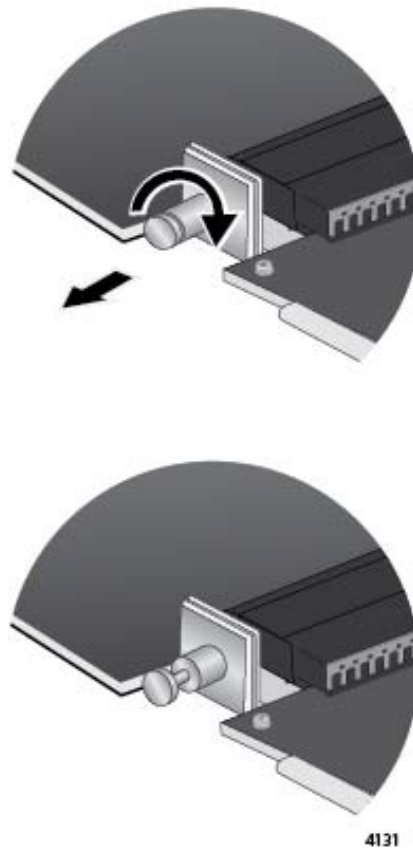

Figure 170. Retracting the Retaining Pin on the AT-SBx81XLEM Line Card
4. With your thumb and forefinger, pull out the retaining pin on the side of the line card and turn it clockwise one quarter turn until it remains in the retracted position. Refer to Figure 170.